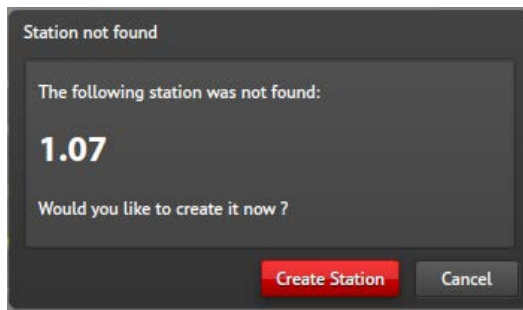

Figure 23. Station Not Found Dialog Box
- a prompt to add the station to the configuration if the station is not found (see Figure 23).